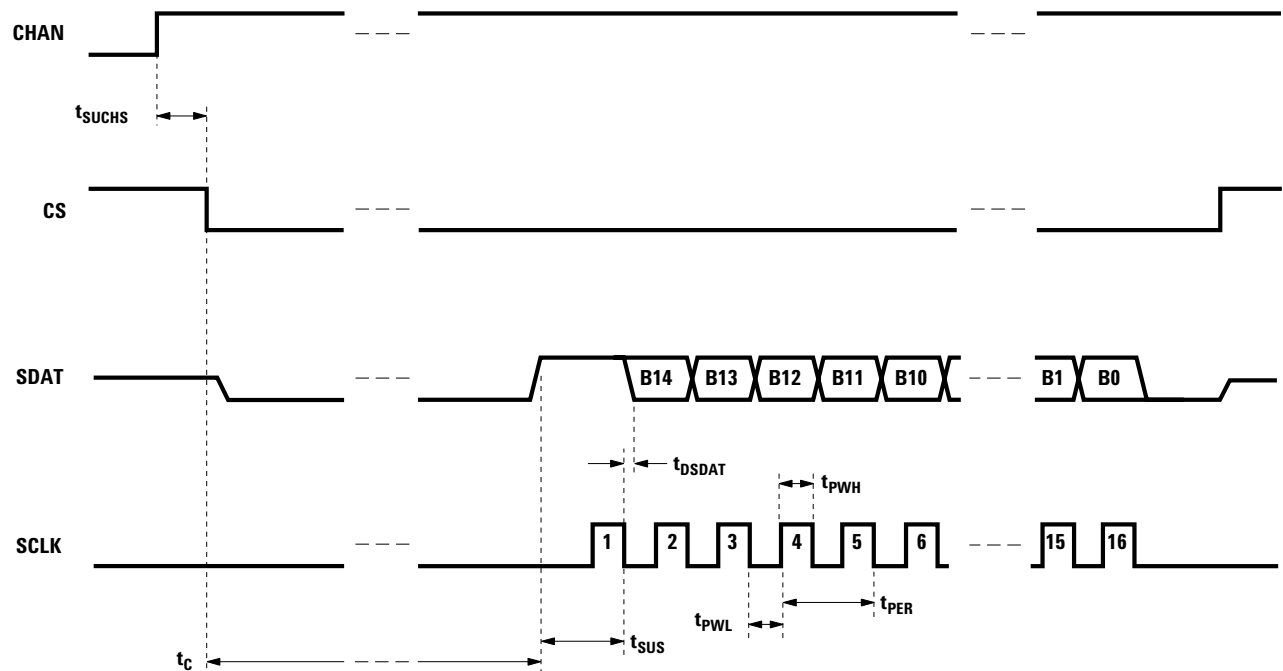

Figure 2. Conversion Timing.
Figure 2 illustrates the timing for one complete conversion cycle. A conversion cycle is initiated on the falling edge of the convert start signal (CS); CS should be held low during the entire conversion cycle. When CS is brought low, the serial output data line (SDAT) changes from a high-impedance to the low state, indicating that the converter is busy. A rising edge on SDAT indicates that data is ready to be clocked out. The output data is clocked out on the negative edges of the serial clock pulses (SCLK), MSB first. A total of 16 pulses is needed to clock out all of the data. After the last clock pulse, CS should be brought high again, causing SDAT to return to a high-impedance state, completing the conversion